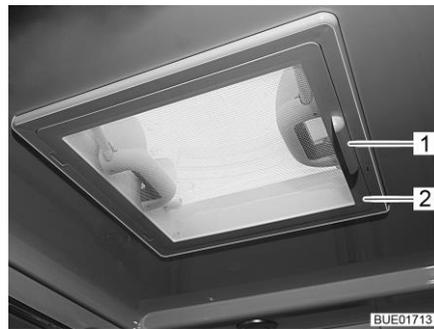

Fig. 27 Skylight with snap latch
- Use handle (Fig. 27,1) to swing down the insect screen (Fig. 27,2).